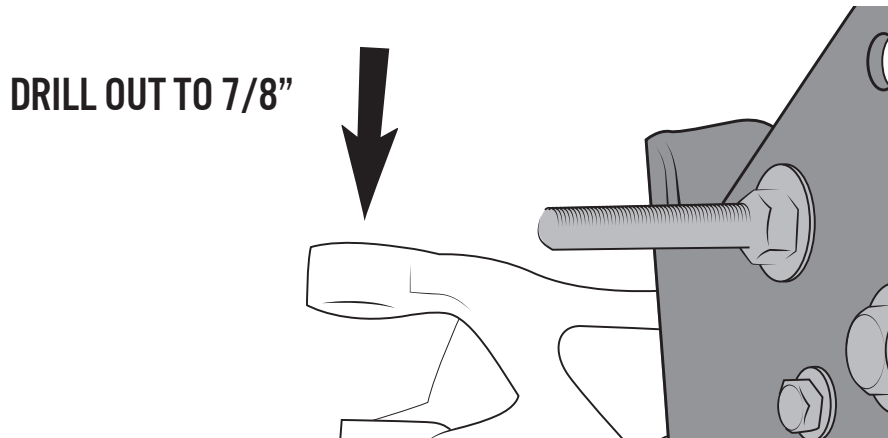

Figure 6
1. First, drill out the tapered hole in the upper (draglink) arm on the passenger-side knuckle to make it a 7/8" diameter straight hole as shown (Fig. 6). Be sure to drill as straight and steady as possible to avoid a loose connection. Insert the supplied taper-to-straight adapter sleeve into the hole.